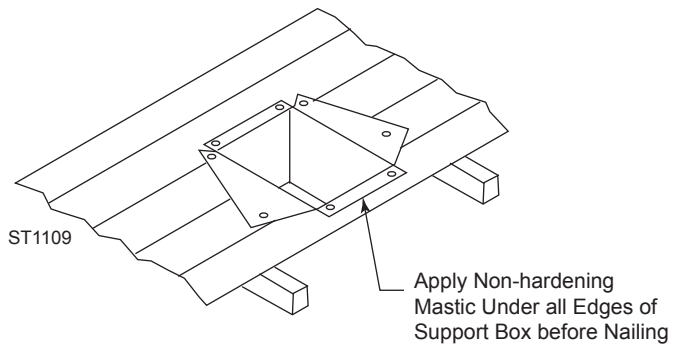

Figure 23 - Installed Cathedral Ceiling Support Box
4. Using tin snips, cut the support box from the top corners down to the roofline and fold the resulting flaps over the roof sheathing. *Figure 23*. Apply a bead of non-hardening mastic around the top edges of the support box to make a seal between the box and the roof. Nail in place with roofing nails. Remove any combustible material that might be inside the support box.